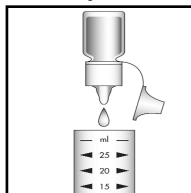

Figure 2
2. Add 6 drops of A-2700 Neutralizer Solution (fig 2). Stir to mix the contents of the cup.